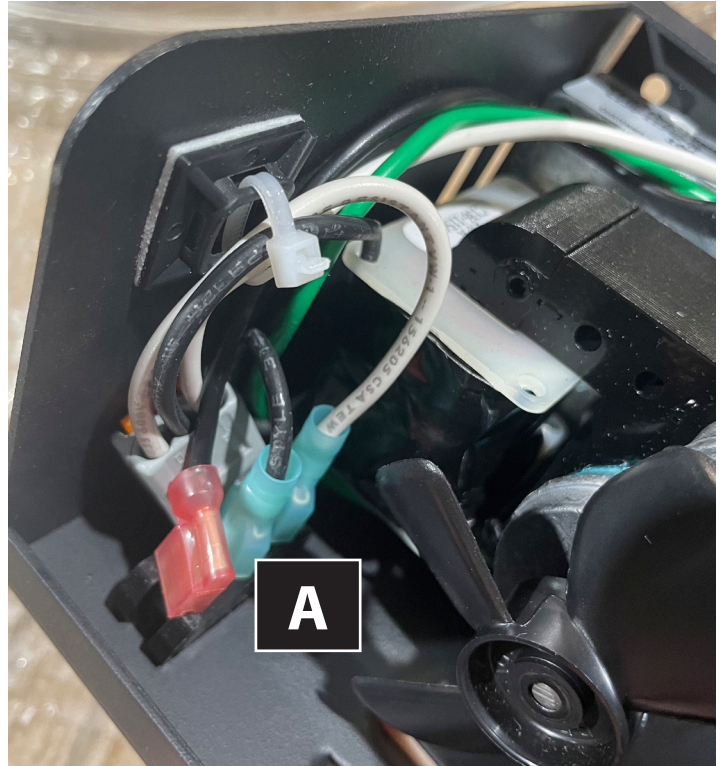

Figure 1
- 2) Remove the top of the unit by removing two (2) black screws.
- 3) Locate three (3) prong switch connections (A) as noted in (Figure 1). Disconnect using needle nose pliers.